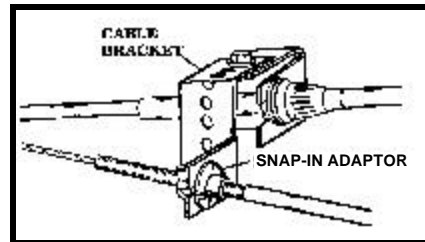
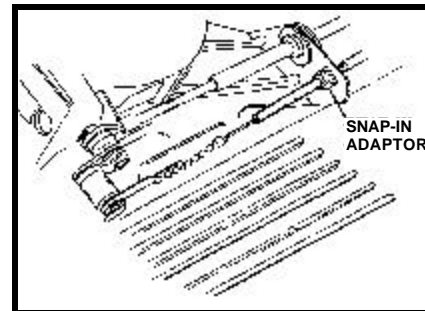

Figure 22
Figure 23
3. The **SNAP-IN ADAPTOR** snaps into the square hole of the **CABLE BRACKET** **Figure 22** or snaps into an existing square hole in the vehicle (common on **GM™** vehicles). **Figure 23**